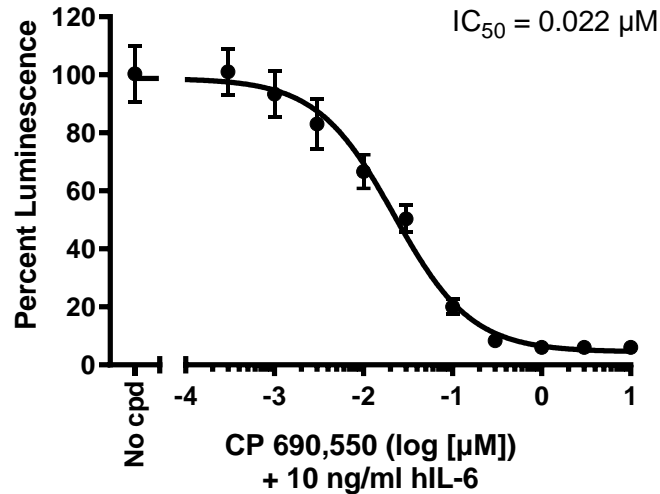

Figure 4. Inhibition of hIL-6-induced reporter activity by the JAK Inhibitor CP 690,550 in IL-6 Responsive Luciferase Reporter HEK293 Cell Line.
*Note: Results shown in Figure 4 were obtained by preparing a stock solution of CP 690,550 at 10 mM in DMSO, which was then diluted to 20 μM in Assay Medium. The serial dilution was prepared at concentrations 2-fold higher than the final desired concentrations in Assay Medium containing 0.2% DMSO (Diluent Solution), to keep the concentration of DMSO constant.*